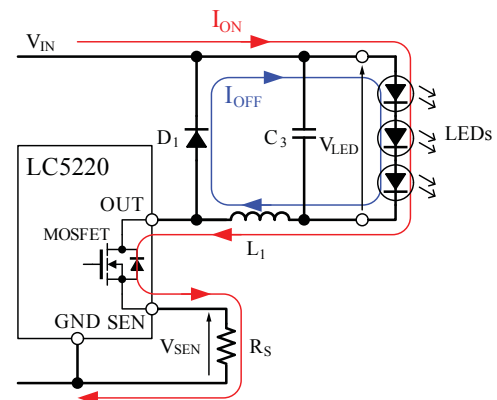

Figure 5. Output current flow in a buck configuration during PWM on-time and off-time periods
At startup, or during normal operation before the output current through the LED string reaches the target current level, the internal power MOSFET turns on and the output current flows through the  $I_{ON}$  path shown in figure 5.
- When the internal power MOSFET turns off, the current recirculation diode,  $D_1$ , is forward biased by the back electromotive force (BEMF) in the inductor,  $L_1$ , and  $D_1$  turns on. Then the energy stored in  $L_1$  during PWM on-time flows through the recirculation path shown as  $I_{OFF}$  in figure 5.
Figure 5 shows the typical application circuit for buck converter operation. In order for that circuit to operate, the following condition must be fulfilled: